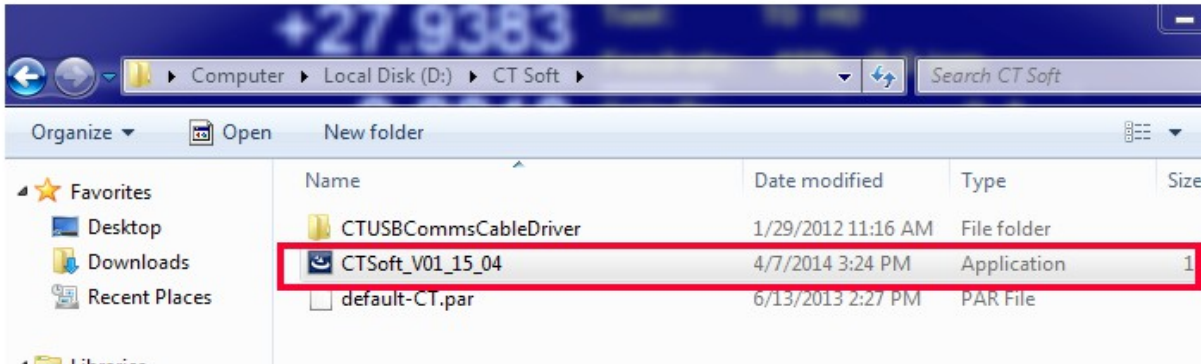

Figure 2
8. Double-click the CTSOft_V01_15_04.exe file as shown in Figure 2 and follow the installation prompts.